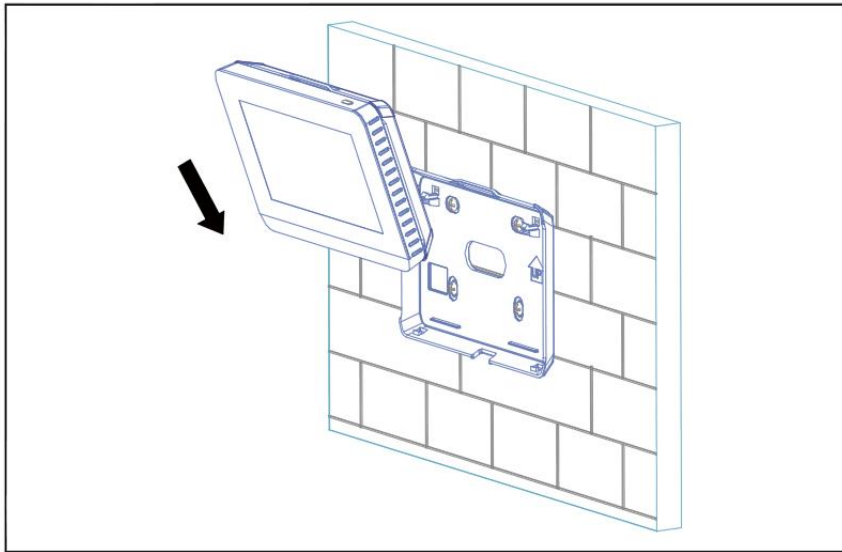

Figure 5 Insert controller into back cover
3.1.4 Insert the central controller into two buckles slantwise at the bottom of back cover, as shown in Figure 5.